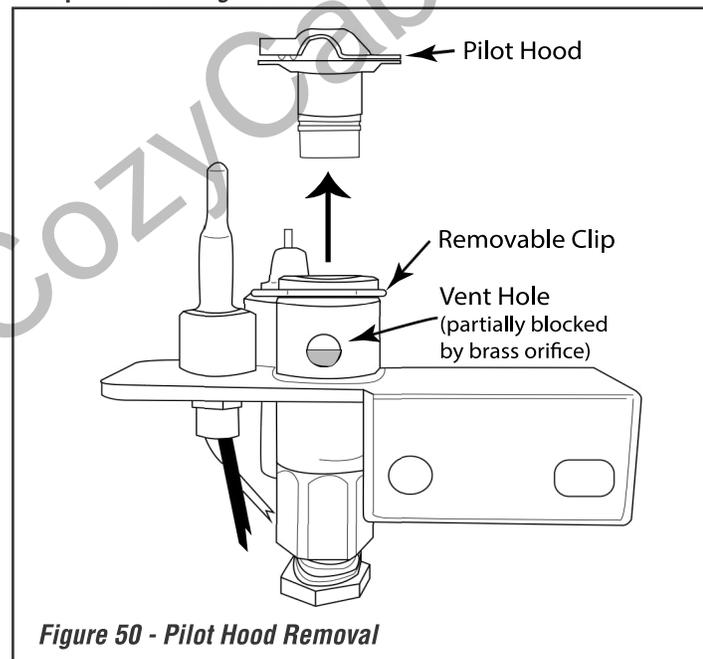

Figure 50 - Pilot Hood Removal
The pilot hood will lift straight up and out of the pilot assembly after removing the wire clip with a small screwdriver or needle-nose pliers. See Figure 50.
NOTE: Figures 50 and 52 provide a visual reference of the pilot orifice from Natural gas to LP gas through the vent hole of the pilot assembly.
Step 10. Look for the low rate set screw in the gas valve box. There is a cutout (window) area that allows access to the low rate set screw. Figure 50 shows the side view of the burner pan and a close-up detail.